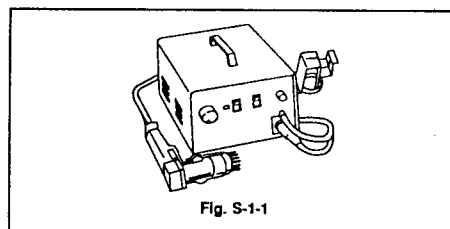

Fig. S-1-1
- Prepare the HOT - AIR FLAT PACK - IC DESOLDERING MACHINE, then apply hot air to Flat Pack - IC (about 5-6 seconds). (Fig. S-1-1)